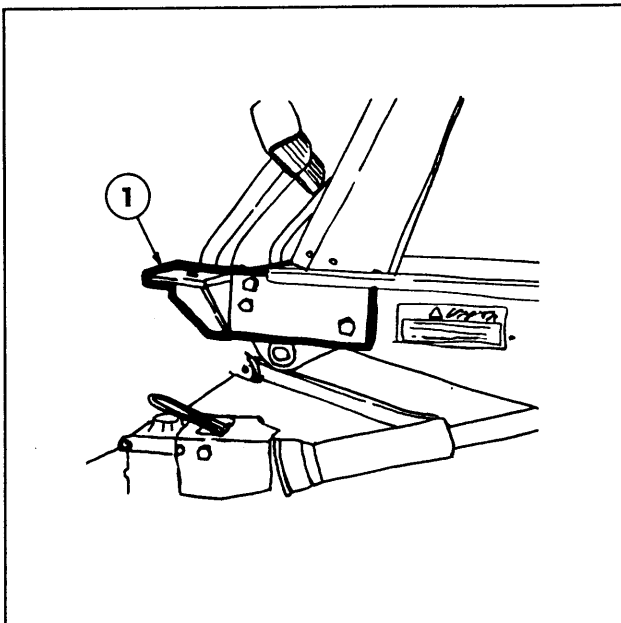

Figure 1
2. Take the left front bracket (1) and position it against the two-hole bolt pattern in the left side of the operator foot platform. Ensure the ROPS mounting plate is towards the front and outside. Bolt the bracket to the platform using the 12x30x1.75mm hex bolt and 1/2" lockwashers supplied. (see Figure 1)
3. Locate the rear hole in the left front bracket (1). Using the hole as a guide drill a 9/16"dia. hole through the platform. Loosely, bolt the bracket to the platform using the 1/2"x2 1/2" hex bolt, hex nut, and lockwasher supplied. (see figure 1)
5. Tilt the seat plate forward. Locate the factory 2-post ROPS mounting tubes. Take the left rear bracket (2) and slide it